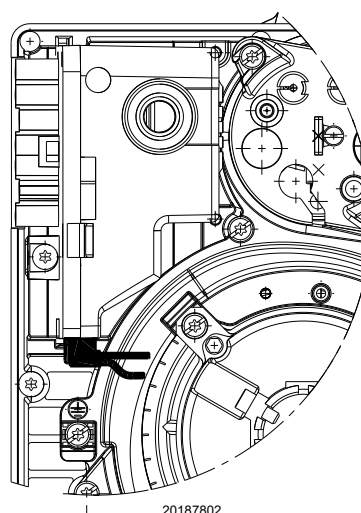

Fig. 18
- Check proper insertion of connection connectors according to the symbols shown on the bottom of the flame control equipment: make sure that the connectors are fully inserted by pushing them all the way in, each in its relevant position. All connectors must have the connection cables facing towards the inside of the burner (see Fig. 18).